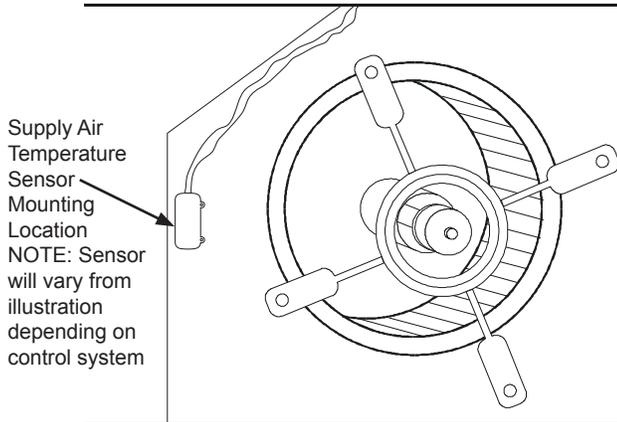

Fig. 11 - Supply Air Sensor Placement
- Remove supply air temperature sensor from economizer and install in supply air chamber (for DH W7212 controls and D2 W7220 controls only). See Fig. 11,
SUPPLY AIR TEMPERATURE (SAT) SENSOR — The supply air temperature sensor is a 3 K thermistor located at the inlet of the indoor fan. (See Fig. 11) This sensor is field installed. The operating range of temperature measurement is 0° to 158° F. See Table 4 for sensor temperature/resistance values. The temperature sensor looks like an eyelet terminal with wires running to it. The sensor is located in the “crimp end” and is sealed from moisture.